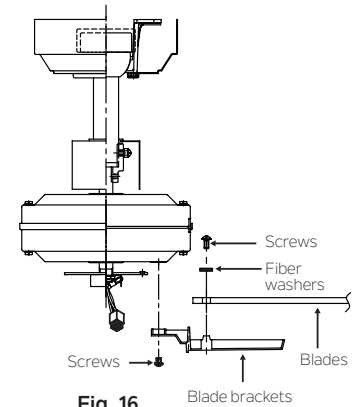

Fig. 16
**Step 1.** Attach a blade to a blade bracket using the screws and fiber washers provided. (Fig. 16)
**Step 2.** Attach each blade assembly to the motor using the “Pre-Installed” mounting screws in the blade bracket. (Fig 16)